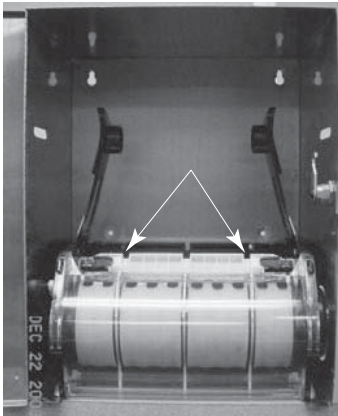

Fig. 1
2. Locate and remove the two screws and lock washers located at the top back of the roll paper towel module (See Fig. 1) and the two screws and lock washers located on the bottom, outside of the cabinet, using the allen wrench provided.